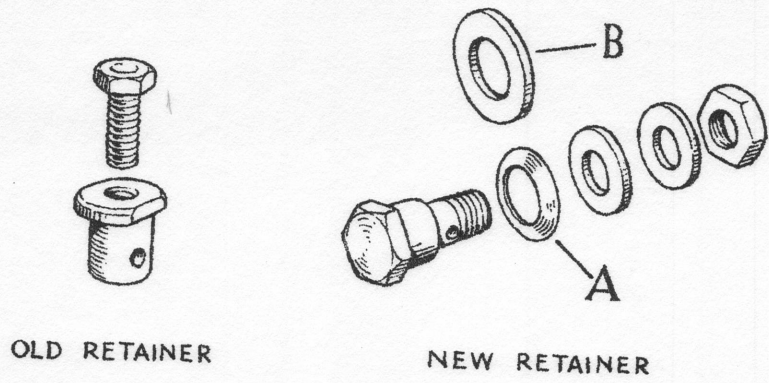

Fig. 1.
Plain washer (B) 9067236 not required at pedal end. ) See Fig. 1